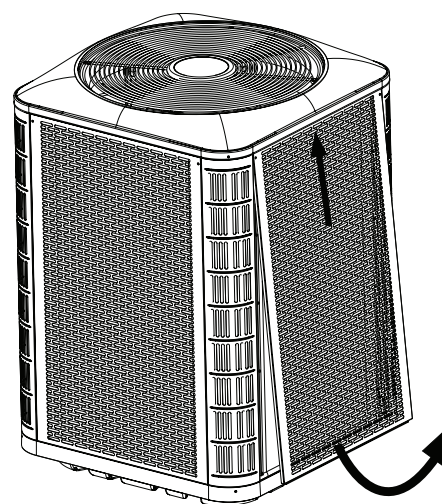
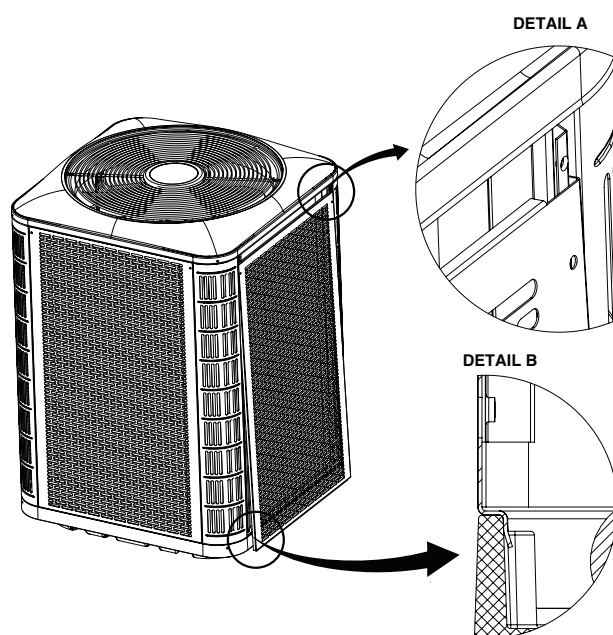

Figure 2. Panel Removal
Figure 3. Panel Installation
- To access the outdoor coil on units equipped with louvered panels, refer to Figure 2, \(page 8\) for panel removal and Figure 3, \(page 8\) for panel installation.
2. Slide the panel up towards the top pan in order to clear the bottom flange from the base pan. See Figure 2.
1. Insert the top corners of side panel flanges into the corner post channels as shown in Detail A in Figure 3.